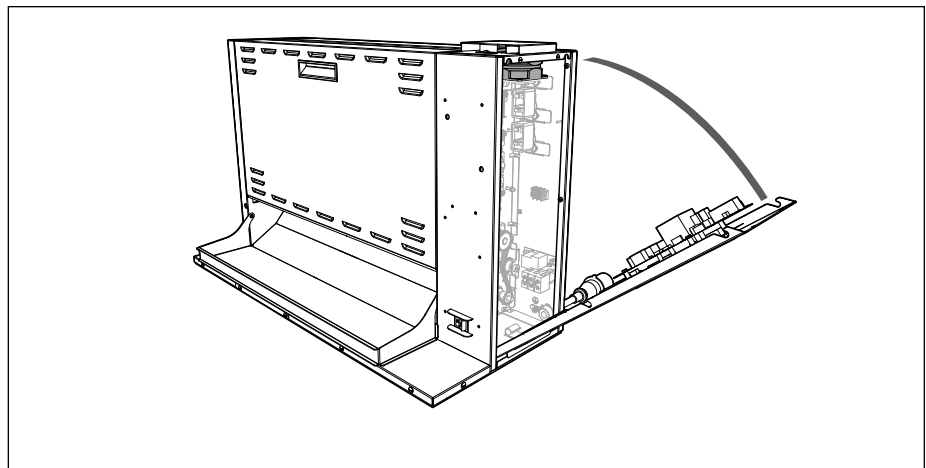

Figure 16. Accessing Top Cooling Fan
3. Facing the front of the toaster, move to the right Side Panel. Remove the 2 top screws from the right Side side Panel and lower the panel (Figure 16).